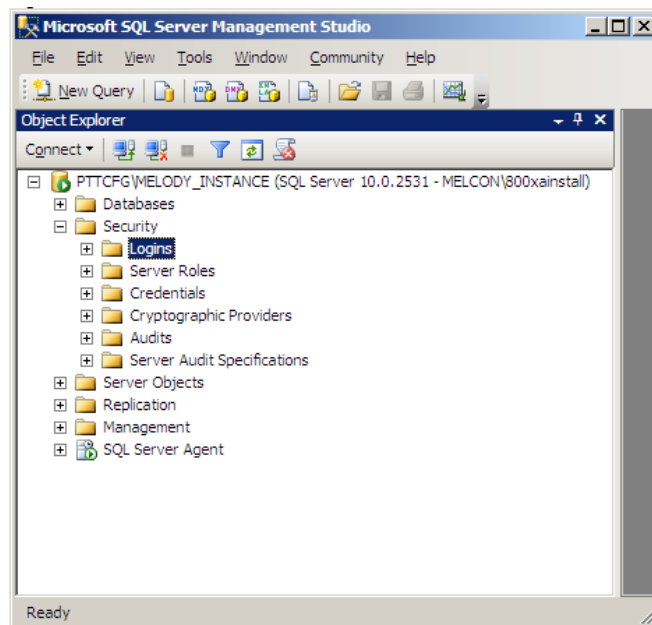

Figure 38. Microsoft SQL Server Management Studio Dialog Box
3. Expand the listing to view the `Security\Logins` in the Microsoft SQL Server Management Studio dialog box (Figure 38).